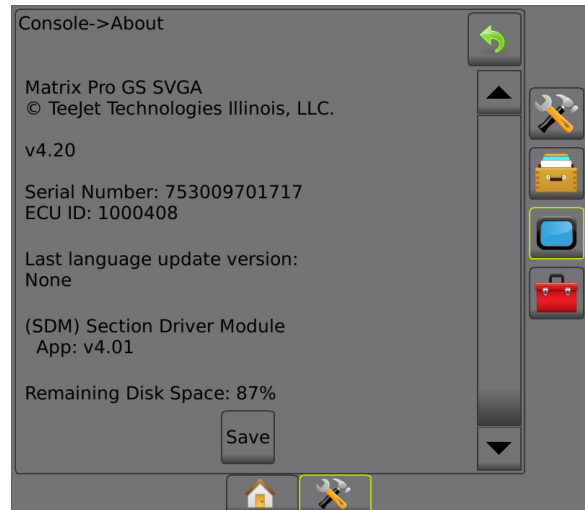

Figure 22 - About screen
3. Press the About button to display the About screen shown in Figure 22.